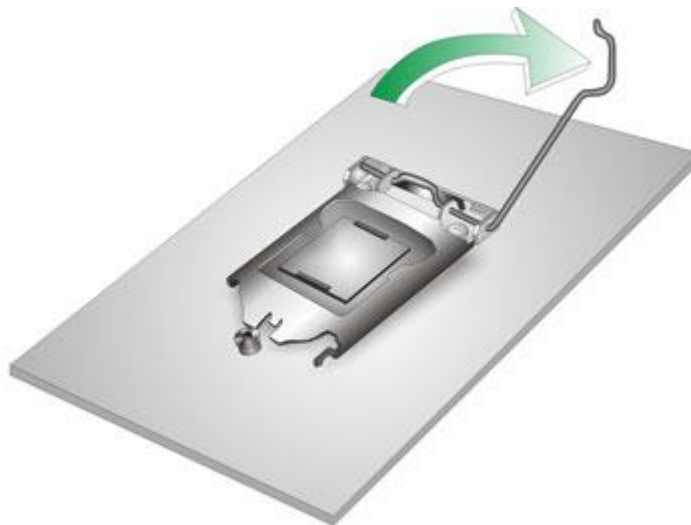

Figure 4-1: Disengage The CPU Socket Load Lever
Step 1: Disengage the load lever by pressing the lever down and slightly outward to clear the retention tab. Fully open the lever. See **Figure 4-1**.